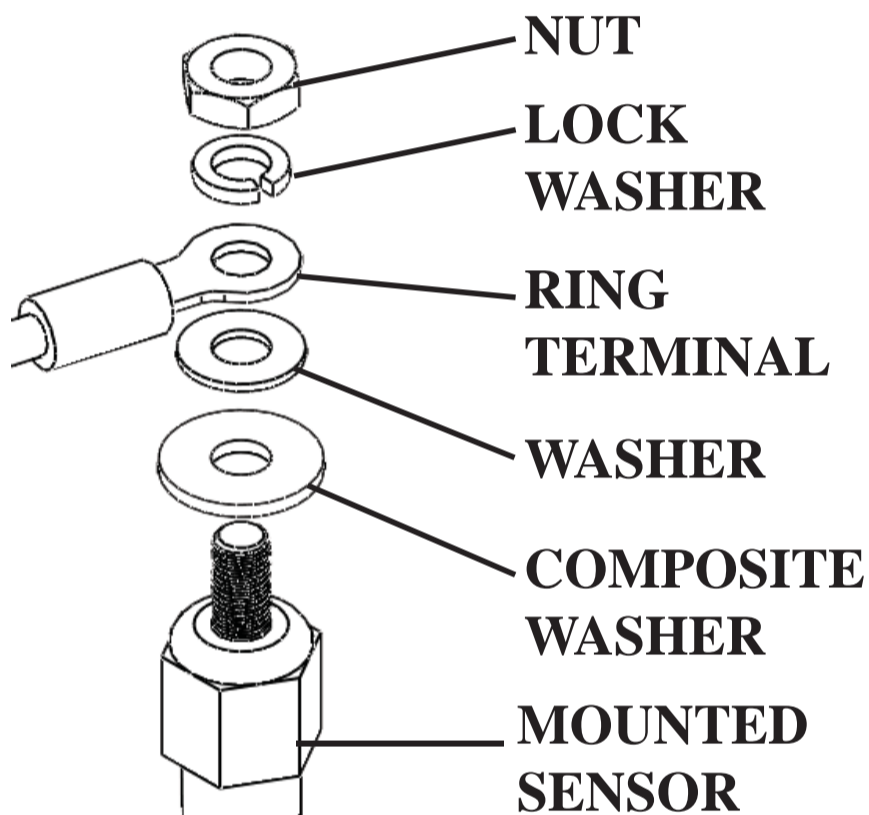

Figure 15
2) Remove the hardware from the end of the mounted sensor as shown in Figure 15.
3) Replace the hardware, including the Adapter's ring terminal, in the order according to Figure 15.